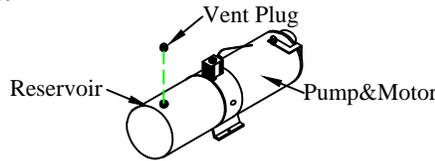

Figure 15: Vent plug.
7. **Install** the vent plug provided into the pump reservoir (Figure 15).
Note: The liftgate ground must pass through the "loop" of the hall effect sensor (Figures 15 & 16).